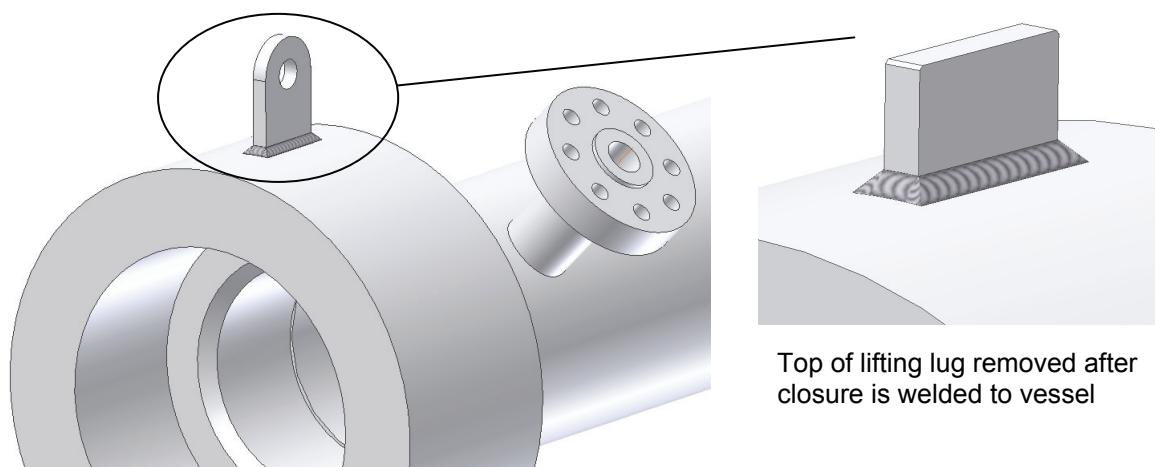

Fig 5.0 – Removal of lifting lug
- 1 Branch connections (in particular set-in type) should not be located within close proximity of the joining weld (not less than the nominal diameter (ID) of the branch, between the edges of the weld).
- 6 On larger closures fitted with separate hinge retaining lugs, a lifting lug is provided to aid positioning for welding. This lifting lug must be removed after welding (Fig 5.0)